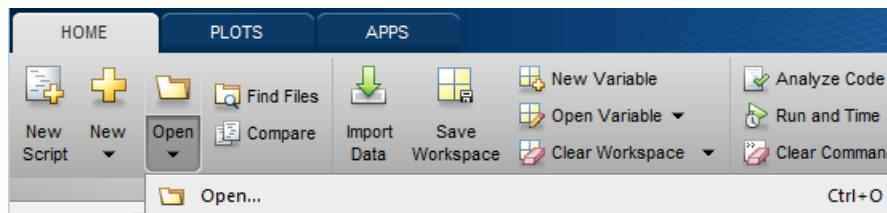

Figure 252 Open the System Generator Design
2. When Matlab invokes, use the Open toolbar button to select open (Figure 252).